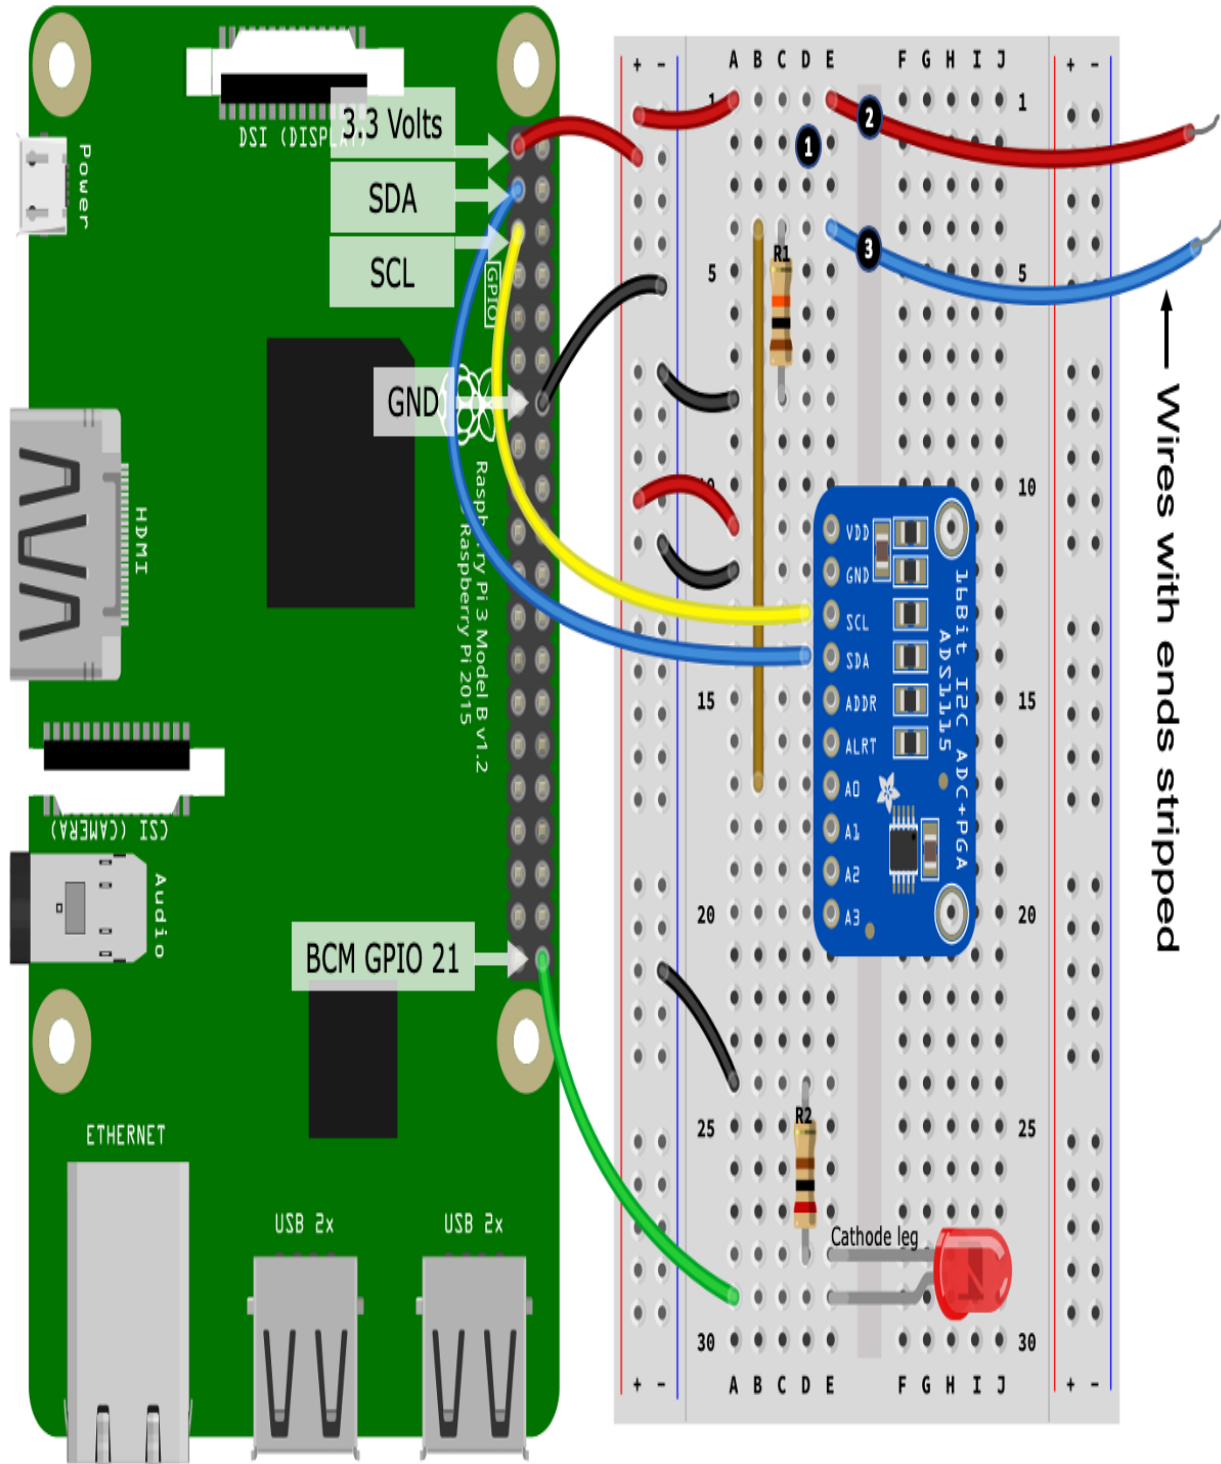
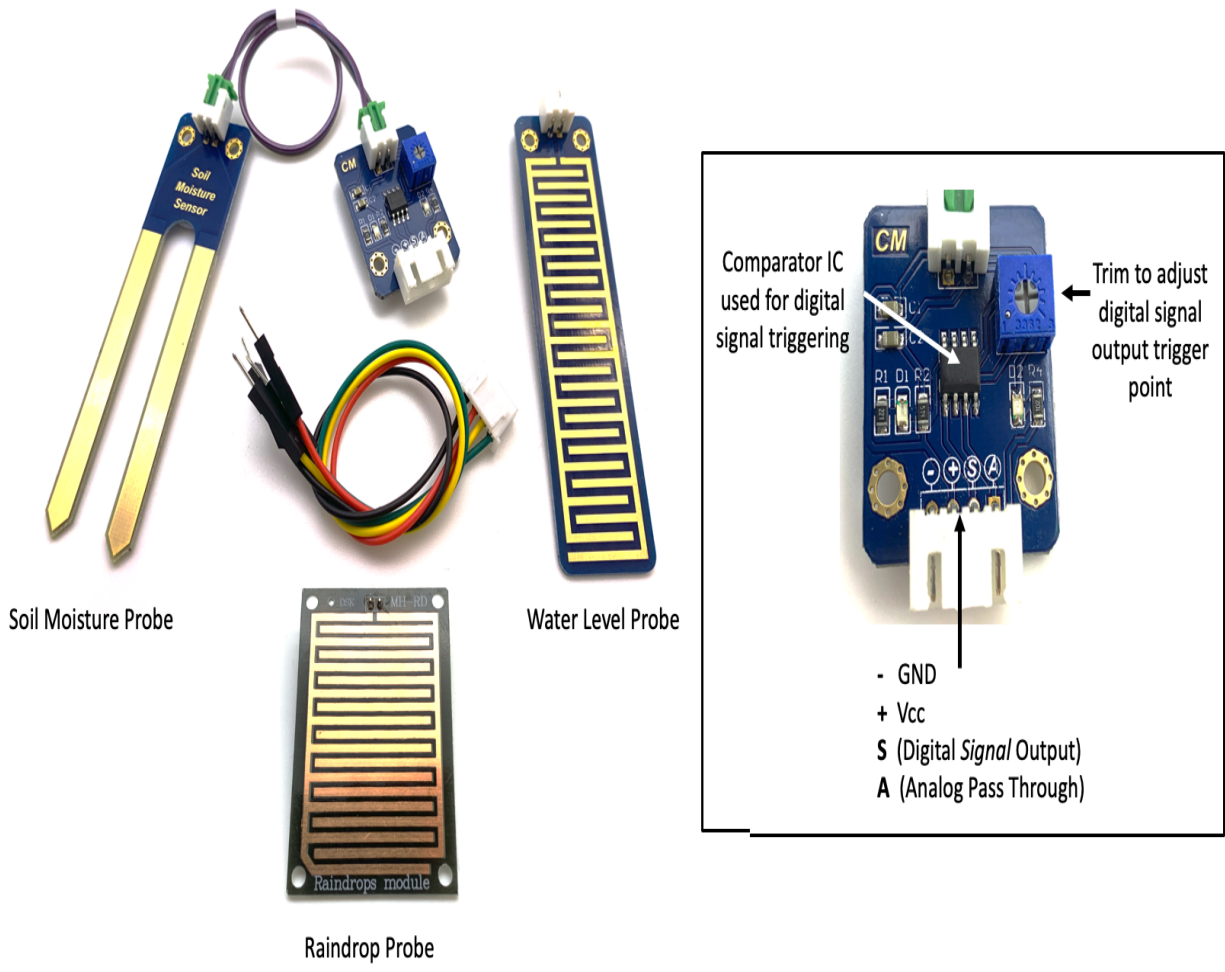

Figure 9.8 – Moisture detection circuit
Figure 9.9 – Moisture detection module and probes
For this exercise, you can create a set of probes using two pieces of wire (with the ends stripped), and attach them in place of the LDR, as shown in *Figure 9.8*. This is the same circuit we built in the previous section and showed in *Figure 9.7*, only this time, we have replaced the LDR with two wires. Let's make this slight change now:
Here are the steps to follow, which match the numbered black circles in *Figure 9.8*:
The three probes pictured each have two terminals and are simply an exposed copper trace on a circuit board, analogous to the exposed wires we saw in our circuit in *Figure 9.8*. A key difference is that these probes expose a larger surface area and are therefore more sensitive. Furthermore, they are also likely to be less prone to corrosion (at least in the short-to-medium term) than two stripped wires.
*You can connect these probes directly to the exposed wires in our circuit shown in Figure 9.8 to expand and enhance the detection capabilities of the circuit!*
Let's discuss the electronic module (zoomed in and labeled in *Figure 9.9* on the right-hand side).
The *analog output* is a pass-through to the probe. You connect it directly into a voltage divider circuit and measure a varying voltage with an ADC such as the ADS1115 – the exact scenario we created in *Figure 9.8*. If you use the analog pass-through, you are bypassing all the other circuitry on the module (hence why you can just connect the probes directly into our example circuit).
The *digital output* is what uses the module circuitry. A typical module circuit includes, at a minimum, an integrated circuit known as a voltage comparator, a fixed resistor, and a variable resistor, which is a trigger-point trim adjustment. The fixed resistor together with the probe creates a voltage divider. The voltage comparator is responsible for monitoring the voltage across the voltage divider and triggering the digital output (for example, transition from LOW to HIGH) at a point determined by trim adjustment. An example of a trim adjustment variable resistor can be seen in *Figure 9.9*.
So, to conclude, what's better – using an ADS1115 and voltage divider type circuit such as that shown in *Figure 9.8*, or using a module such as that pictured in *Figure 9.9*? There is no one best answer; however, the following points will help you make your own decision:
- Using a circuit such as that in *Figure 9.8* is an analog approach. The raw voltage detected by the sensor is passed directly to your Raspberry Pi. One simple advantage of this approach is that you have full control over a *trigger* point in code. You could, as an example, remotely adjust the trigger point from a web page. The downside of this approach is that you need a more complex circuit that involves an ADS1115 and a voltage divider.
- Using a module such as that pictured in *Figure 9.9* as a digital approach promotes a simpler interfacing circuit to your Raspberry Pi in that you can connect the digital output terminal directly to a GPIO pin (as long as the digital output of the module 3.3-volts). The caveat is that you must have physical access to the module and the adjustment trim to change the trigger point.